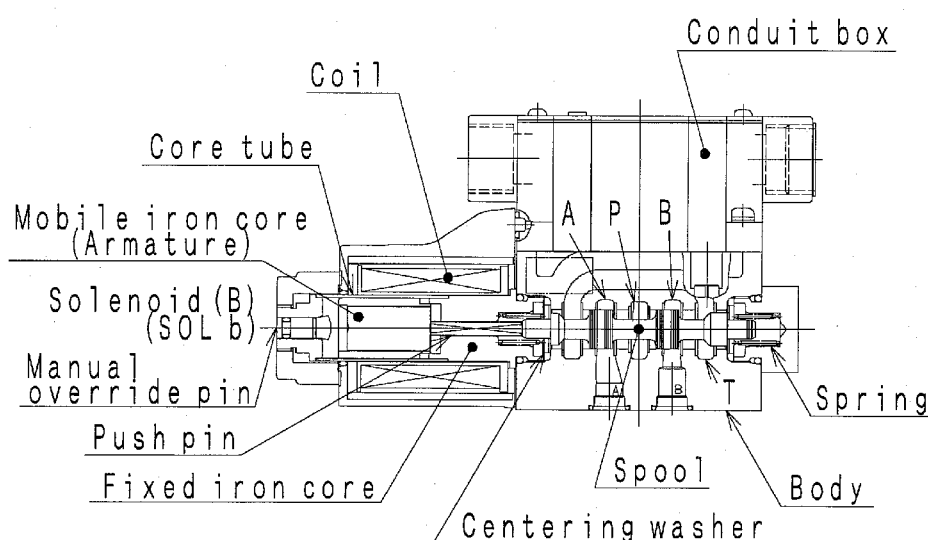

FIGURE 2 Structure of DG4V-3-*A
Figure 2 shows the structure of the spring offset A type (DG4V-3-*A) solenoid operated directional control valve.
- (1) When the solenoid of this directional control valve type is deenergized, the spool is offset in the fixed position by spring force. In the condition of FIGURE 2, it is $P \rightarrow A$, $B \rightarrow T$ (in case of the 2A spool).
- (2) When solenoid (B) is energized, the armature is drawn to the fixed iron core. The movement pushes the spool while compressing a spring through the push pin switching the circuit. The circuit condition when switched becomes $P \rightarrow B$, $A \rightarrow T$. (In case of the 2A spool)
- (3) When solenoid (B) is deenergized, the spool returns to the condition of the offset (FIGURE 2).